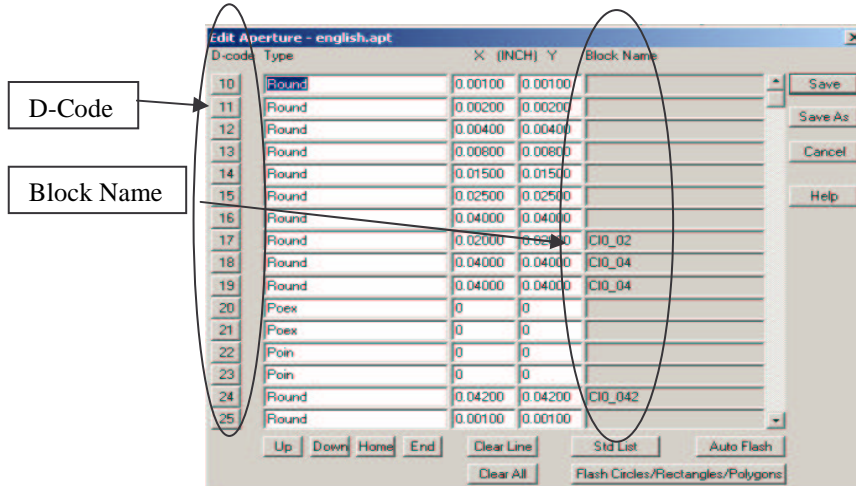

Figure 10: Example of Edit Aperture menu
- 7) Back in the **Edit Aperture** menu find each block name for which a hole is desired and note the corresponding **D-code** (see figure 10). Hit **Save**.